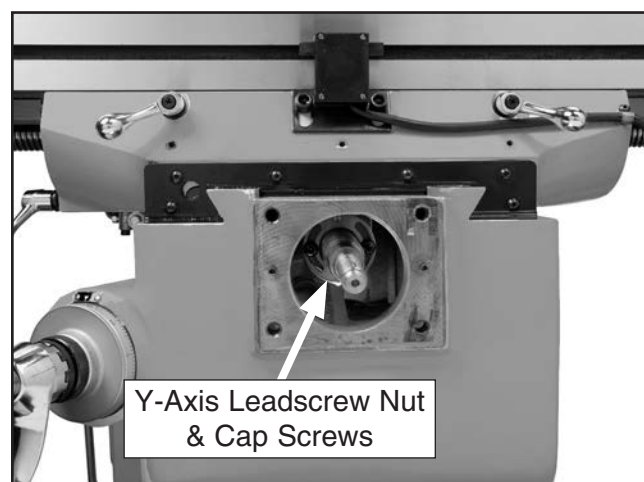

Figure 68. Y-axis leadscrew nut and cap screws.
5. Loosen the two cap screws on the face of the leadscrew nut shown in **Figure 68**.